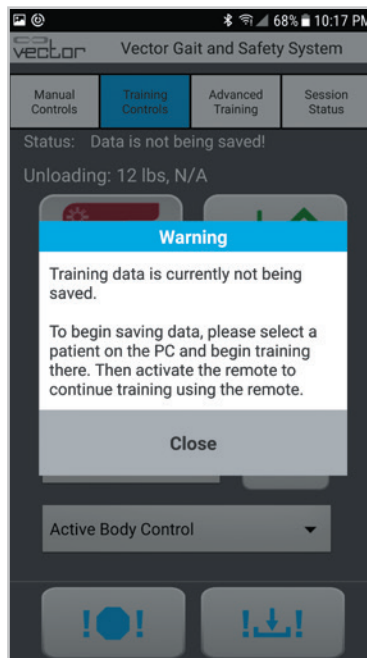

Figure 9-29: Warning Message - Training Data Not Being Saved
2. If the Trolley Tracking and/or DBWS buttons are pressed, without the PC establishing connection to the trolley or a patient account being selected and a training session initiated from the PC, then you will see a warning message stating, "Training data is currently not being saved." Press the OK button to proceed with using the remote control. See Figure 9-29.